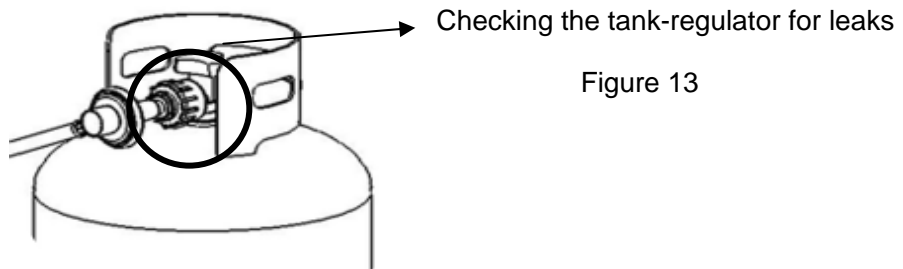

Figure 13
14. Open the tank valve. Apply a solution of soapy water to the tank-regulator connection and to the valve-hose connection to check for leaks as shown in Figure 13. If soap bubbles continue to form, the connection has a leak. If a leak is found, close the tank valve and tighten all connections.